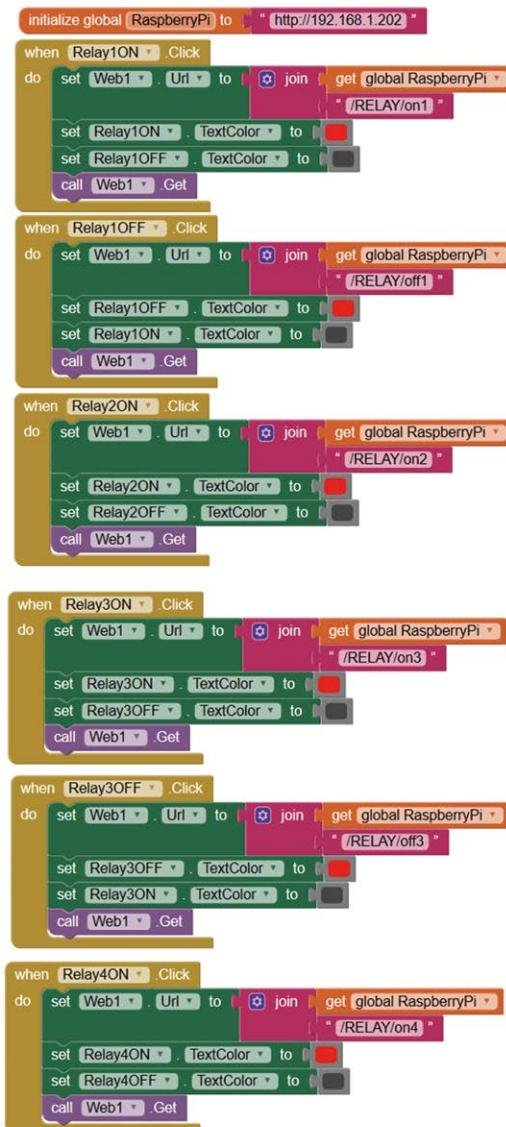

Figure 23.10a: Block program of the project.
- Repeat the blocks for the other buttons similarly as shown in Figures 23.10a and 23.10b.